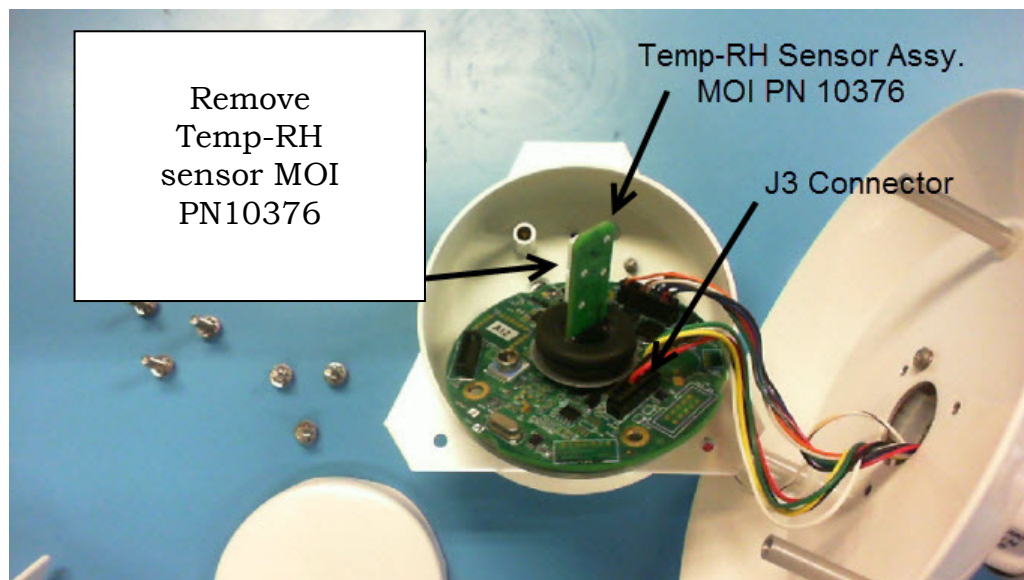

Figure 5
4. Push the shield wire out of the way and carefully lift the PCB straight up just far enough for the Temp-RH Sensor Assy. to clear the PCB Housing Grommet. Turn the PCB over so that the Temp-RH Sensor Assy. is facing upwards. See Figure 5.